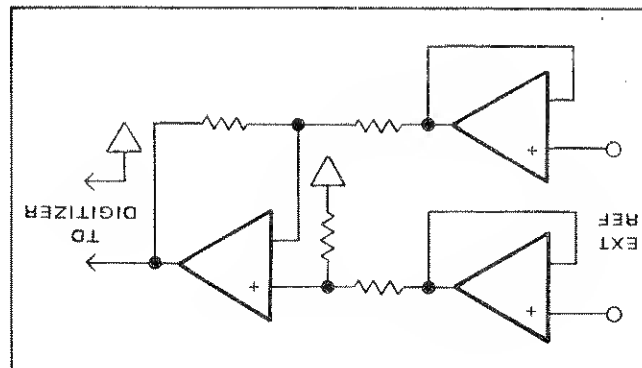

Figure 4.14 - 4-Wire Ratio Option
4.55 The four wire ratio circuitry is mounted on a single printed circuit board and occupies connector J14 on the Main Logic board. The 4-wire ratio option eliminates ground loop errors in ratio measurements by permitting the reference input common lead to float in reference to the signal input common. The circuitry, shown in figure 4.14, consists of two gain-of-one isolation amplifiers driving a differential potentiometric amplifier. Field installation of